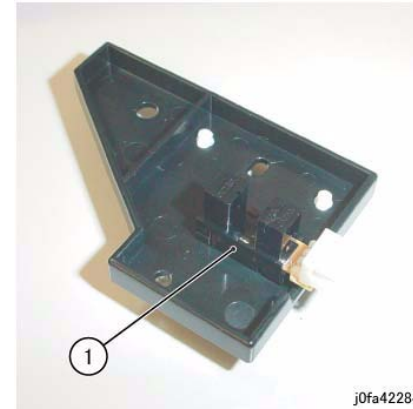

Figure 4 Removing the Rear Tamper Home Sensor (j0fa42284)
9. Remove the Rear Tamper Home Sensor. (Figure 4)